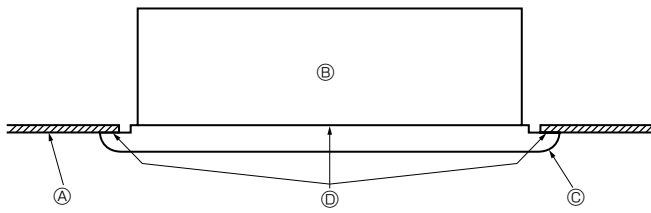

Fig. 5-6
- At this point, make sure there are no gaps between the indoor unit and the front panel, and between the front panel and the ceiling surface. If there are gaps, the wind may come in and it may cause water to drip (Fig. 5-6).
5.4. Checks after installing (Fig. 5-6)